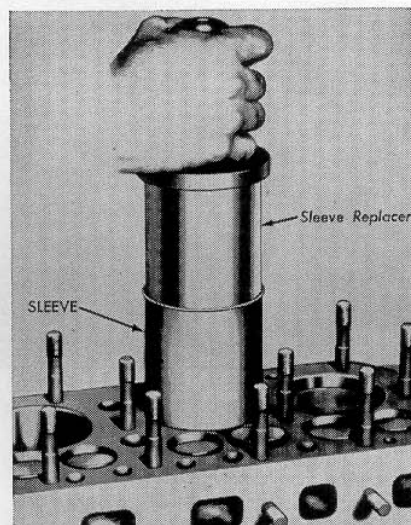

Fig. FO24—A piloted mandrel is used to prevent wall buckling of steel cylinder sleeves.
32. Steel sleeves are removed from cylinder block with a crushing tool. Drive tool to bottom of cylinder and lift out the collapsed sleeve. Install a new sleeve using a suitable piloted arbor as shown in Fig. FO24, then check installation with a plug gauge or new piston and feeler of correct thickness. If recheck shows new sleeve was buckled during installation, it must be removed and a new one installed.